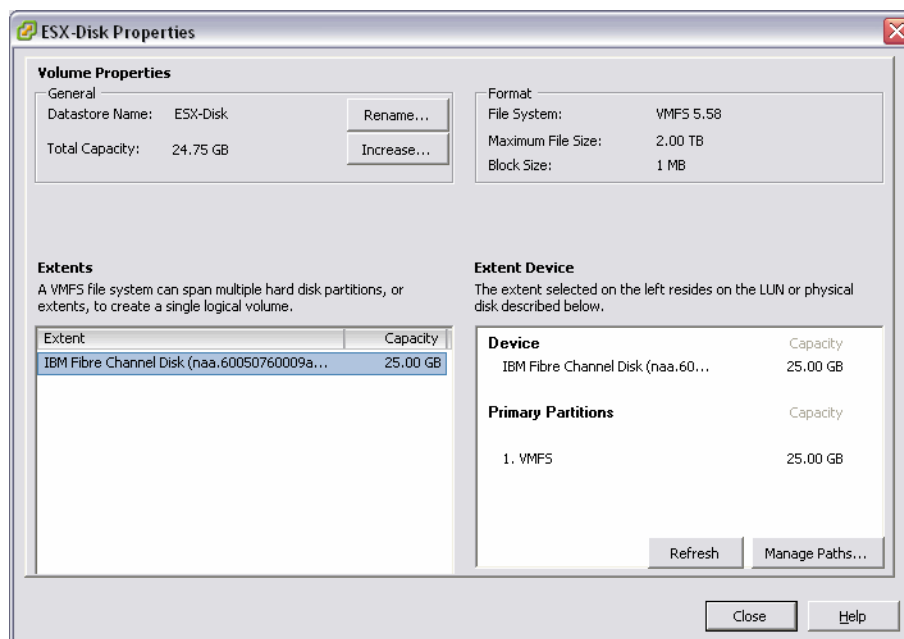

Figure 5-58 Data store properties
- Highlight the new data store and click **Properties** to see more details, as shown in Figure 5-58.